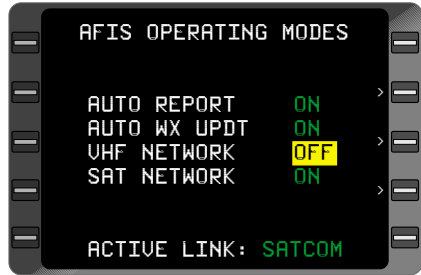

Figure 7-94
4. Line Select Key - DEPRESS to position cursor over **OFF** option of **VHF NETWORK** field. (Figure 7-94)